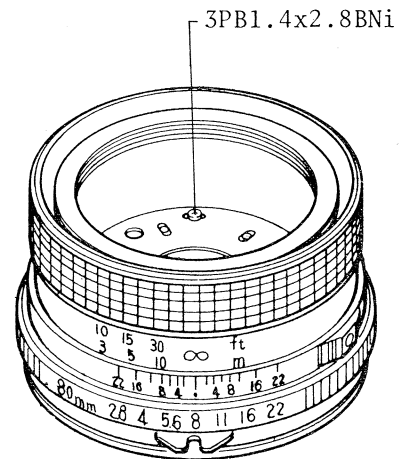

Fig.2
- 2) Loosen three 3PB1.4x2.8BNi screws as shown in Fig.2.